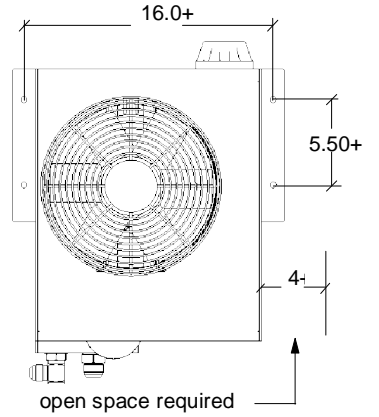

Fig. 1
1. Drill 7/16+dia. holes as shown in Fig.1. Use the capscrews, washers and nuts supplied to mount the Hydrapak.